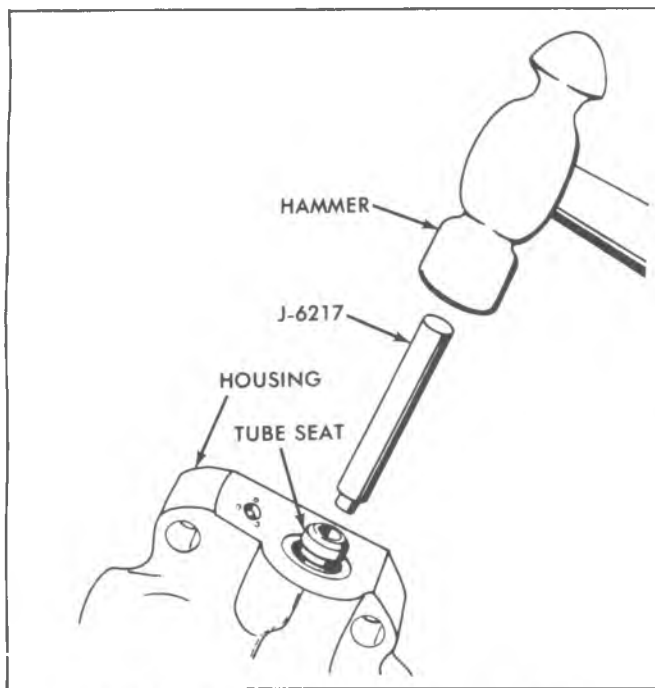

Fig. 5-11E—Installing Tube Seat Using J-6217
1. Install tube seat with Tool J-6217 as shown in Figure 5-11E.